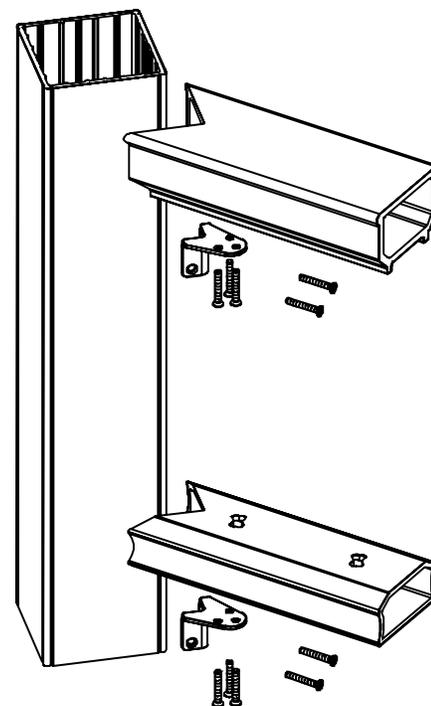

Figure 32
7. Align the angled brackets with the 90 degree cut in the railing. Inset the bracket 1/16" from rails end. Mark the three screw hole locations on both rails. Repeat at opposite end. Pre-drill 1/8" holes at desired locations (Figure 32).